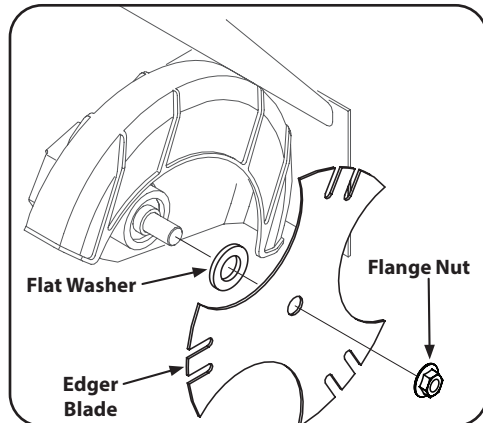

Figure 1
1. Use two wrenches (one wrench to prevent the hex bolt head from spinning and the other to remove the flange nut) to remove the edger blade. See Figure 1.